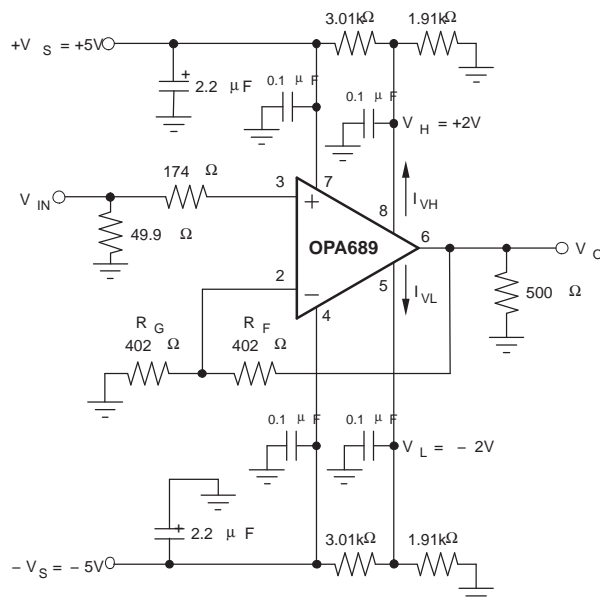
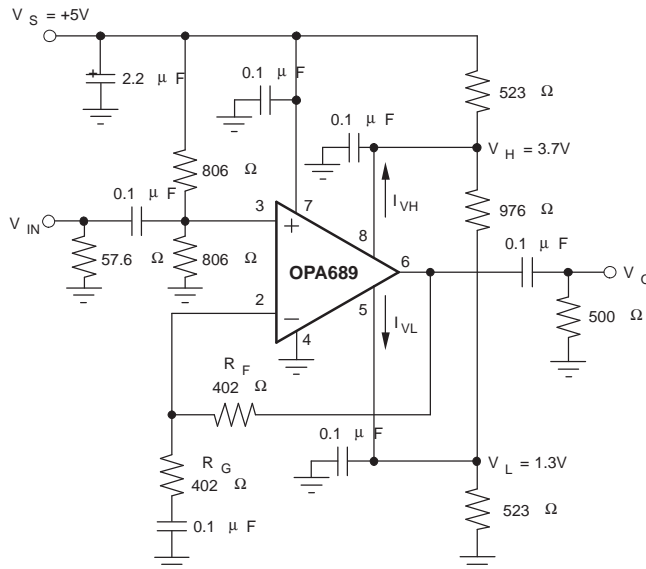

Figure 30. DC-Coupled, Dual Supply Amplifier
Figure 31. AC-Coupled, Single Supply Amplifier
(3) I_{VH} (V_H bias current) is positive and I_{VL} (V_L bias current) is negative under these conditions (see Note 3, Figure 31, and Figure 37).
(4) Limiter feedthrough is the ratio of the output magnitude to the sinewave added to V_H (or V_L) when $V_{IN} = 0$.
(5) Current is considered positive out of node.
(6) V_H slew rate conditions are $V_{IN} = 0.7\text{ V}$, $G = 6$, $V_L = -2\text{ V}$, $V_H = \text{step between } 2\text{ V and } 0\text{ V}$. V_L slew rate conditions are similar.
Figure 30 shows a non-inverting gain amplifier for dual-supply operation. This circuit was used for AC characterization of the OPA689, with a 50-Ω source, which it matches, and a 500-Ω load. The power-supply bypass capacitors are shown explicitly in Figure 30 and Figure 31, but will be assumed in the other figures. The limiter voltages (V_H and V_L) and their bias currents (I_{VH} and I_{VL}) have the polarities shown.
Figure 31 shows an AC-coupled, non-inverting gain amplifier for single 5-V supply operation. This circuit was used for AC characterization of the OPA689, with a 50-Ω source, which it matches, and a 500-Ω load. The power-supply bypass capacitors are shown explicitly in Figure 30 and Figure 31, but will be assumed in the other figures. The limiter voltages (V_H and V_L) and their bias currents (I_{VH} and I_{VL}) have the polarities shown. Notice that the single-supply circuit can use three resistors to set V_H and V_L , where the dual-supply circuit usually uses four to reference the limit voltages to ground.
voltages can break down internal junctions, possibly leading to catastrophic failure. Single-supply operation is possible as long as common mode voltage constraints are observed. The common mode input and output voltage specifications can be interpreted as a required headroom to the supply voltage. Observing this input and output headroom requirement will allow design of non-standard or single-supply operation circuits. Figure 31 shows one approach to single-supply operation.
When the limiter voltages are more than 2.1 V from the supplies ($V_L \geq -V_S + 2.1$ V or $V_H \leq V_S - 2.1$ V), you can use simple resistor dividers to set V_H and V_L (see Figure 30). Make sure you include the Limiter Input Bias Currents (Figure 37) in the calculations (i.e., $I_{VL} \geq 50$ μ A out of pin 5, and $I_{VH} \leq 50$ μ A out of pin 8). For good limiter voltage accuracy, run at least 1-mA quiescent bias current through these resistors.
When the limiter voltages need to be within 2.1 V of the supplies ($V_L \leq -V_S + 2.1$ V or $V_H \geq V_S - 2.1$ V), consider using low impedance buffers to set V_H and V_L to minimize errors due to bias current uncertainty. This will typically be the case for single supply operation ($V_S = 5$ V). Figure 31 runs 2.5 mA through the resistive divider that sets V_H and V_L . This keeps errors due to I_{VH} and $I_{VL} < \pm 1\%$ of the target limit voltages.